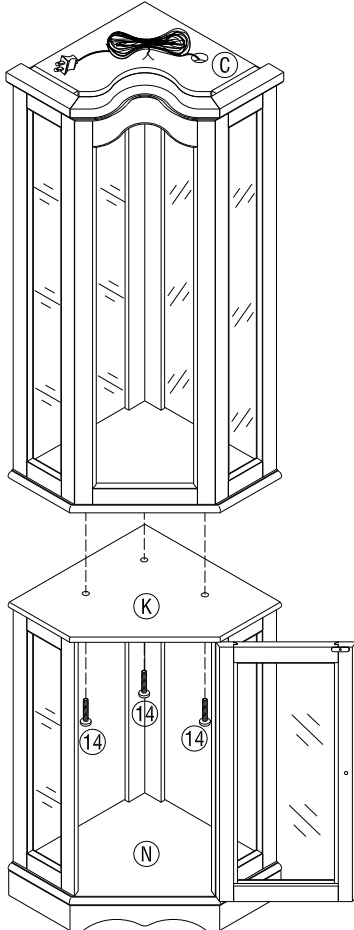

FIGURE 11
11. WITH AN ASSISTANT, PLACE UPPER CABINET ONTO LOWER CABINET, AND TIGHTEN LARGE MACHINE SCREWS (14) THROUGH PREDRILLED HOLES ON LOWER SHELF (K) INTO THREADED HOLES ON UNDERSIDE OF UPPER SHELF (F). AS SHOWN IN FIGURE 11.